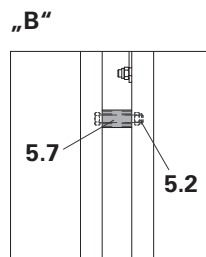

Fig. A3.06a
2. Temporarily brace the Strongback (5).
- Loosen bolt of Spacer (5.2) in the Strongback. (Fig. A3.06a)
- Re-install Spacer. (Fig. A3.06a) Carry out procedure on one Strongback above and with the other one below.